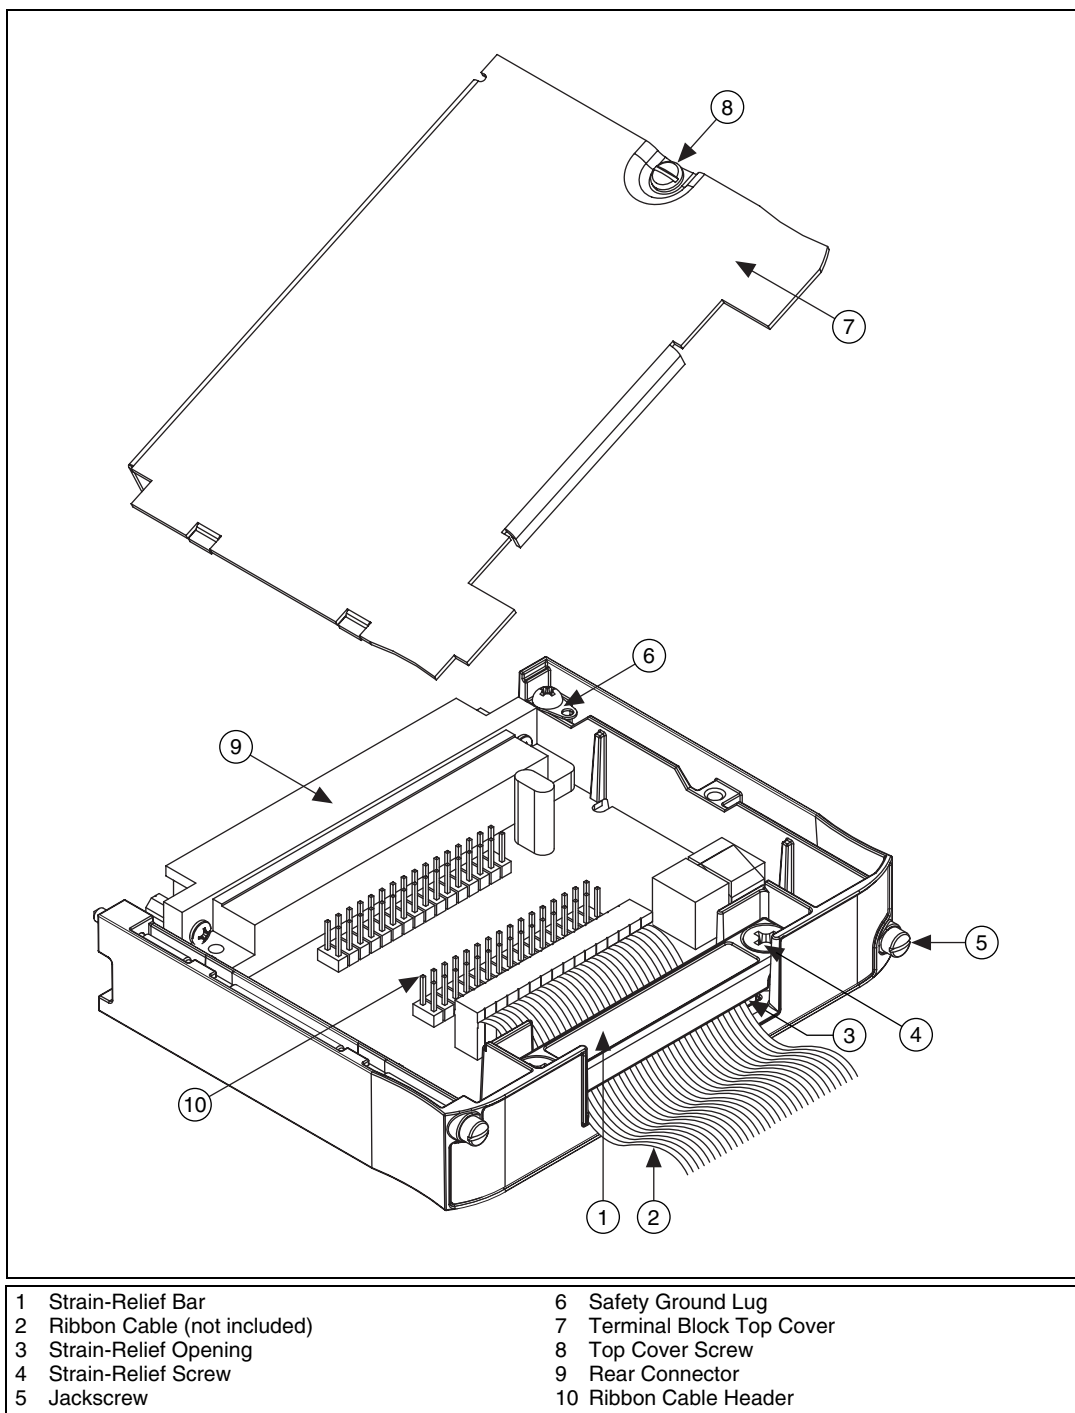

Figure 1. NI TB-2634 Terminal Block
To connect signals to the terminal block, complete the following steps while referring to Figure 1.
4. Pull the ribbon cables through the strain-relief opening as shown in Figure 1.